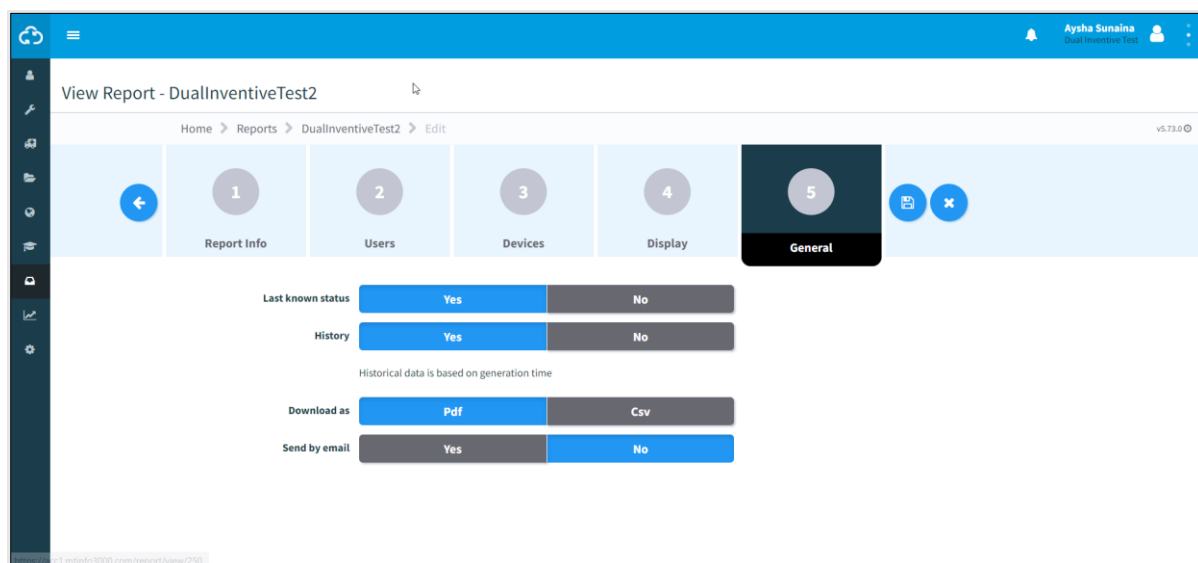

Figure 80 View report - General
- Step 3 - General (Figure 80).